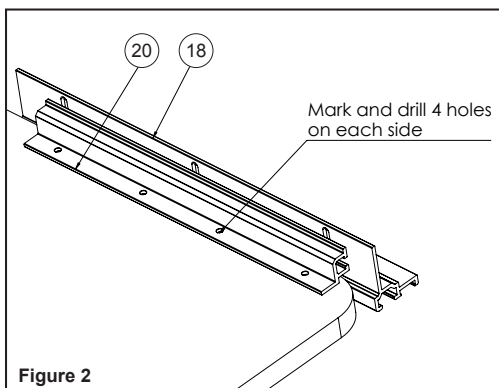

Figure 2
- Take one of your previously assembled track assemblies and with a pencil, mark your holes on the underside of your table top. Use the fence mounting angle (part #20) as a template. **See Figure 2.**